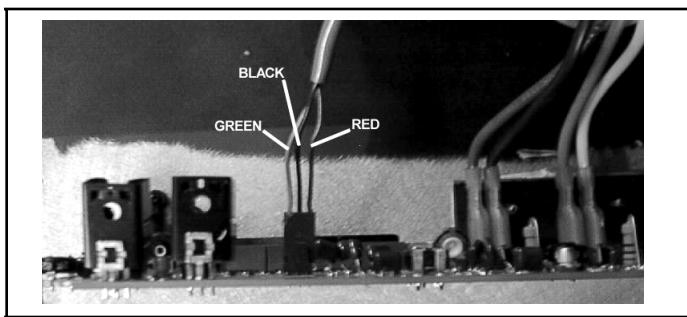

FIG. 6
2. Disconnect PCB mounted LED harness (**FIG. 6**)